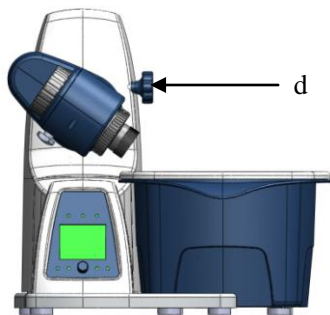

Figure 8
- Set the drive at an angle of approx. 30 ° (Figure 8)